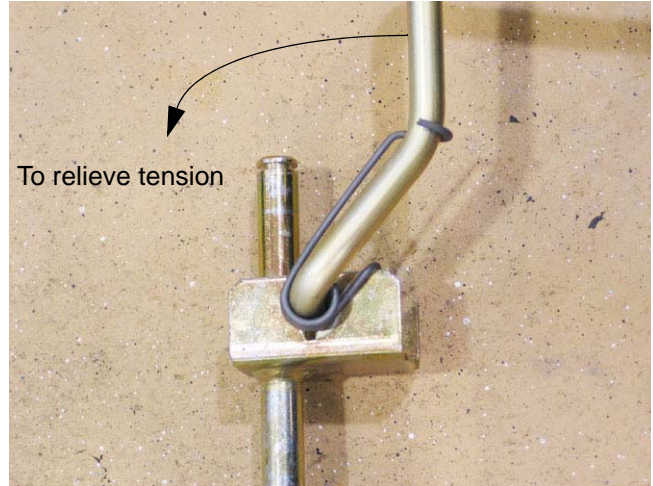

Figure 6.14
8. Rotate the lever to relieve tension from the torsion spring, and align the coined "ears" on the lever with the slots that they pass through in the cross shaft assembly. See Figure 6.14.